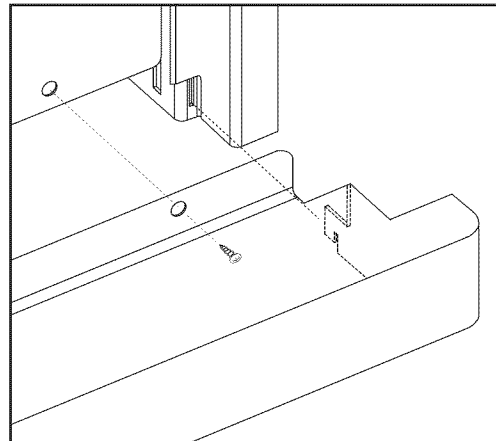

FIG. 2
- 5) Slip tabs on rear of bottom trim into mating slots in oven trim posts (see fig.2). Attach the bottom trim with the 2 screws provided.